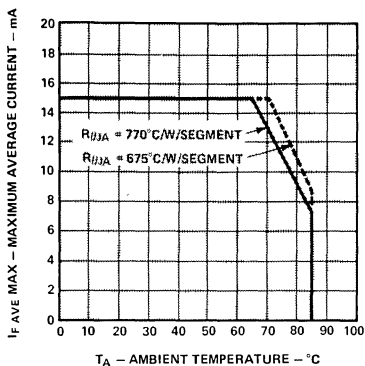

Figure 1. Maximum Allowable Average Current per Segment as a Function of Ambient Temperature
- Derate maximum average current above  $T_A = 65^\circ\text{C}$  at 0.4 mA/°C per segment, see Figure 1. Derate maximum DC current above  $T_A = 78^\circ\text{C}$  at 0.6 mA/°C per segment.